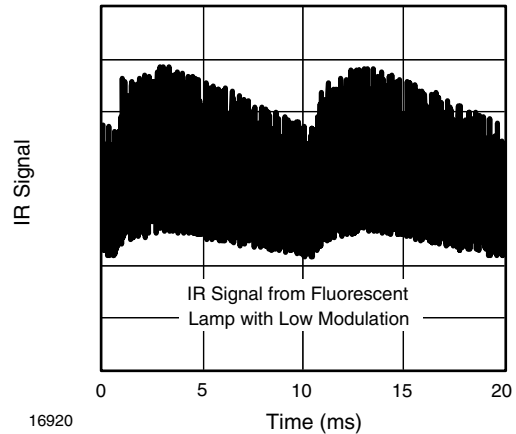

Fig. 14 - IR Signal from Fluorescent Lamp with Low Modulation
- Modulated IR signals from common fluorescent lamps (example of noise pattern is shown in figure 14)